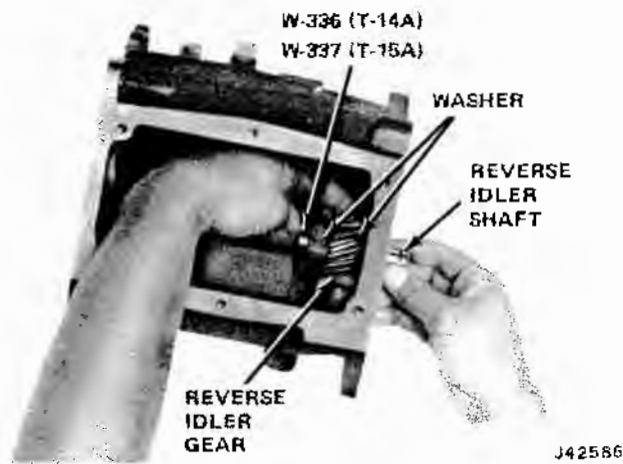
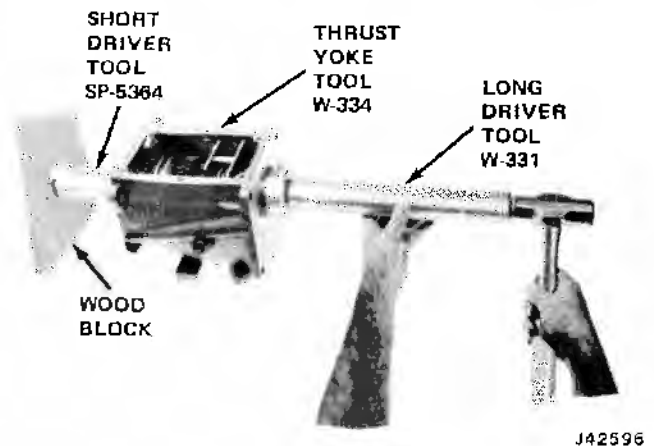

Fig. 6-9 Reverse Gear Idler Gear Removal and Installation
Fig. 6-19 Main Drive Gear Bearing Installation
(16) Remove reverse idler gear, washers, and roller bearings as an assembly (fig. 6-9).
(1) Position reverse idler gear with Arbor Tool W-336 with T-14A or T-337 with T-15A transmission, roller bearing, and thrust washers in case.
(2) Install reverse idler shaft forcing out Arbor Tool. Make certain slot end of idler shaft is correctly aligned to receive lock plate (fig. 6-9).
(3) Assemble countershaft center spacer, four bearing spacers, and countershaft bearing rollers in countershaft gear hub assembly.
(4) Using Arbor Tool W-335 with T-14A or Tool W-332 with T-15A transmission, place center spacer inside hub and insert Arbor Tool in spacer.
(5) Place a bearing at each end of center spacer and load bearing roller set.
(24) Install thrust yoke tool into second speed gear groove and between main drive gear (steel) clutch teeth and bronze synchronizer ring. Use both bearing drivers and a backup block when driving bearings into position (fig. 6-19 and 6-20).
(25) Install main drive gear and main shaft bearing snap rings.
(26) Install main shaft rear bearing adapter, spacer, transfer case drive gear, flat washer, and nut. Tighten nut to 130 to 170 ft-lb (fig. 6-9).
(27) Check the main drive bearing retainer oil seal.